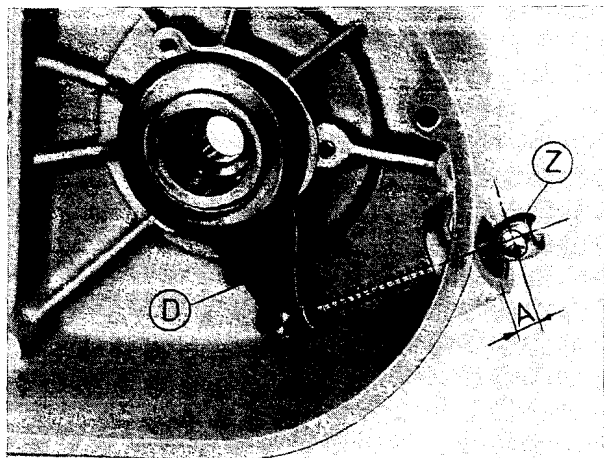

Fig. 87. Explanation of clutch rough adjustment
Push the pipe (1) over the tie rod (2), see Fig. 87. Pipe (1) and tie rod (2) are connected through the bolt (2) 8 mm in diameter which is put through the hole for the cable control. Then turn the bearing bush (arrow a) (3) until the pipe (1) contacts the clutch cover. With this, the basic adjustment of the pressure member (D) with A = 11 mm is determined.